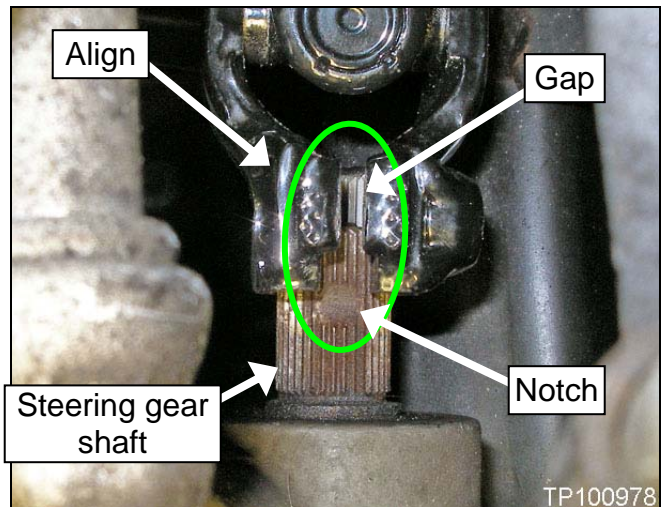

Figure 7
2. Align the gap in the joint with the notched area on the steering gear shaft, and then slide the joint on the shaft (see Figure 7).